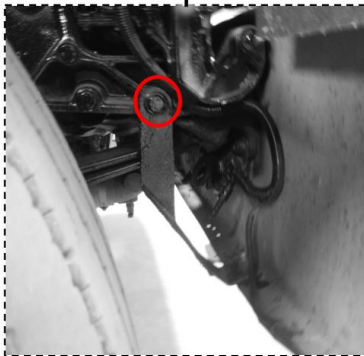

Figure 1b: OEM Bumper Side Fasteners
1. If your truck is equipped with a center tow section, remove it. Remove the OEM front bumper by removing the circled bolts shown in Figure 1a and the bumper side fasteners, one per side; see Figure 1b. Retain the removed hardware for later use.